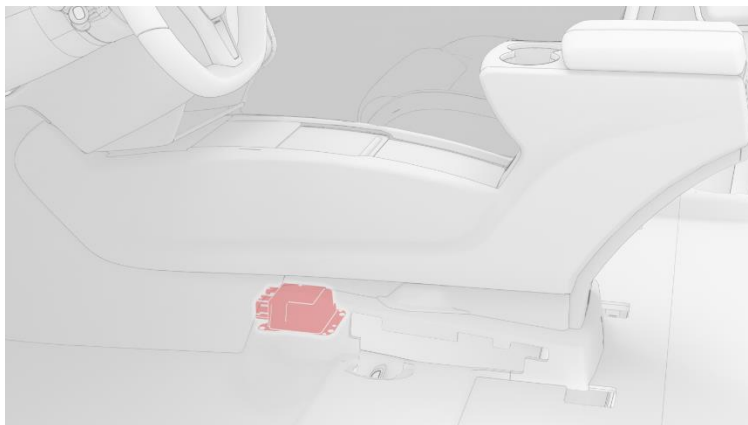

Figure 7. Model X RCM location
If the In-Vehicle Connection procedure is unsuccessful, you might be able to connect to the RCM directly, and establish a direct-to-module connection. The RCM is located under the center console and slightly forward of where the front row seats are mounted (Figure 7).
**NOTE:** In Figure 7 (below) components have been removed to aid clarity.